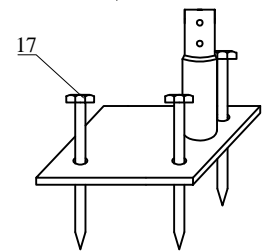

Figure 3
Begin by determining exact location of the four (4) corners of the building. Mark front edge and side-to-side width of assembly on ground. Drive alignment stakes into the ground outside of the markings, and draw alignment strings along both ends and sides of the building to the dimensions shown in Figure 3. The outline of the strings will represent the final location of the base flanges. The initial location of each Corner Base Flanges (5R & 5L) is critical to the alignment and fit of the frame components and cover.